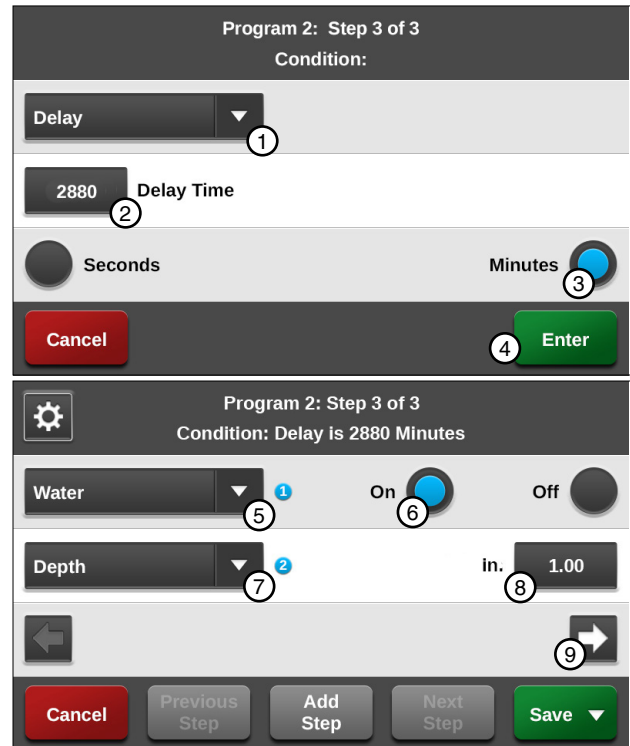

Figure 131-1 1. Delay Condition 2. Delay Time 3. Minutes 4. Enter 5. Water Command 6. On 7. Depth Command 8. Inches 9. Next
7. Program the delay time condition for this step. Refer to Figure 131-1.